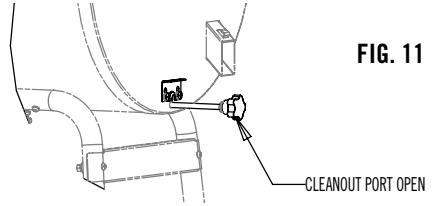

FIG. 11
2. Lift pullout lock and pull clean-out port knob to empty ash into ash cup. See Fig 11